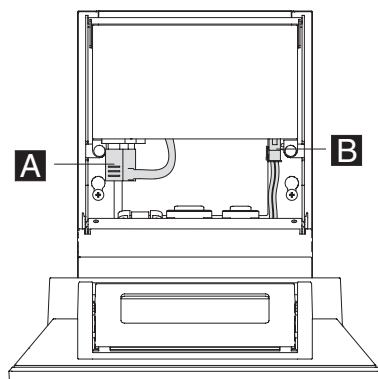

Figure 114. Location of power supply cords
7. Connect the power connector cable **B** to the power supply as shown in Figure 114.
8. Plug the ac power cord **A** to the power supply as shown in Figure 114.